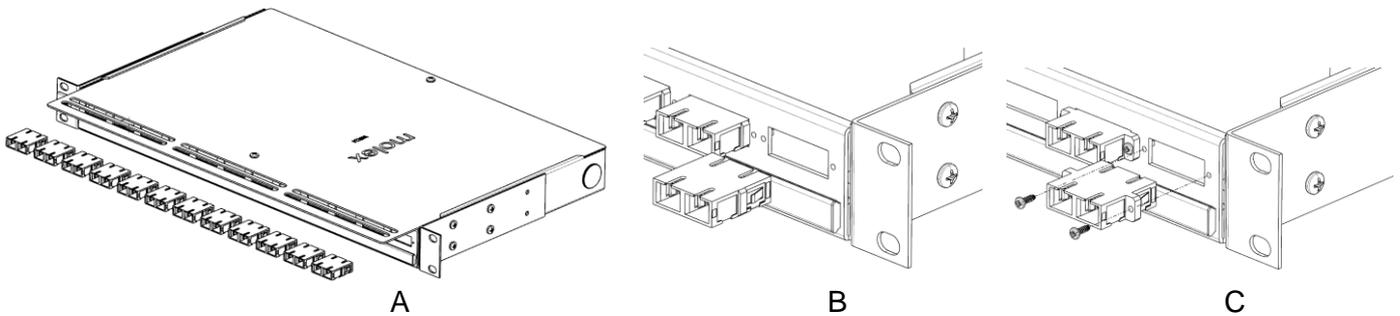

Fig.6
3.6 Installation of Adapters (Fig. 6):